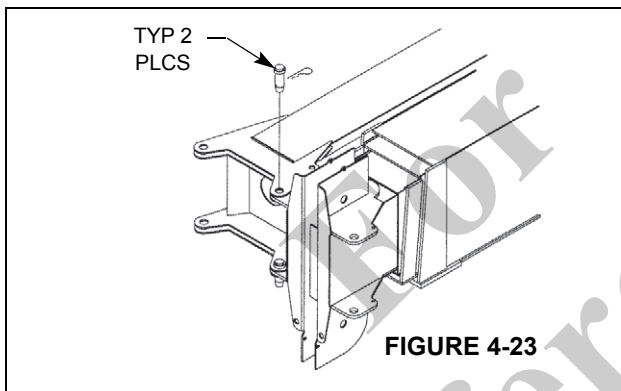

FIGURE 4-23
4. Using an overhead hoist, lift the jib assembly and align and pin the jib to the boom sheave head, Figure 4-23.